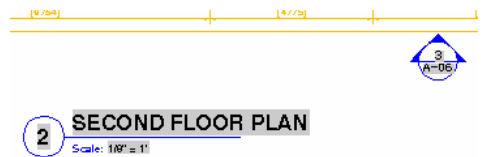

Figure 8.
- Repeat the process for each of the fields as indicated in Figure 8: PlotDate, DeviceName, PageSetupName, Login.